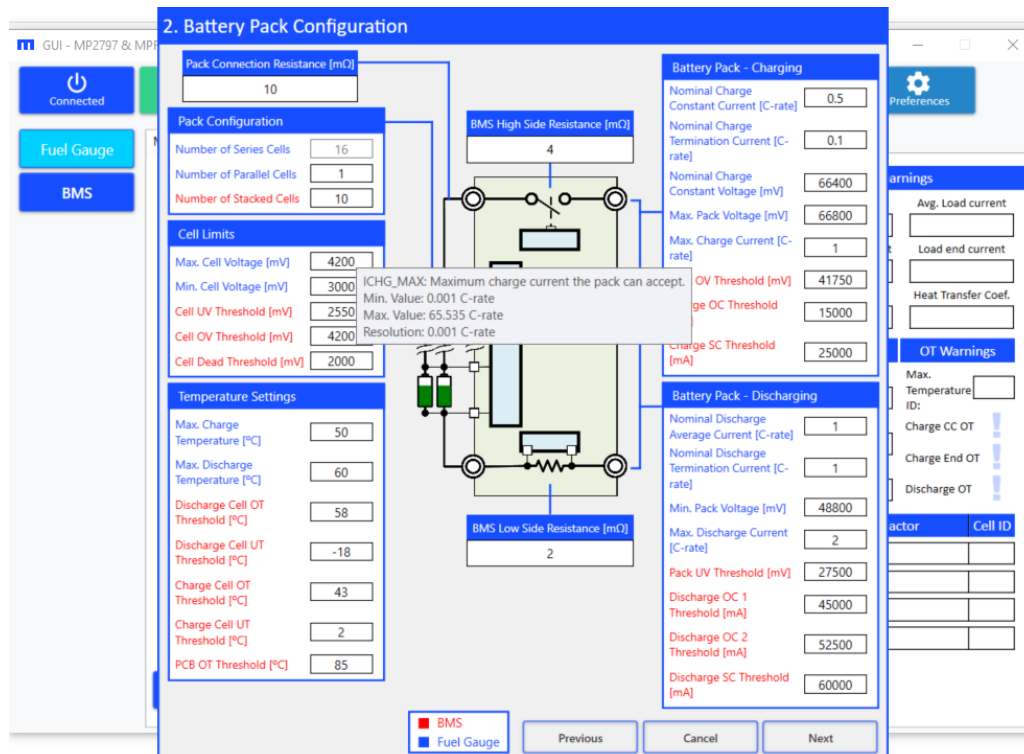
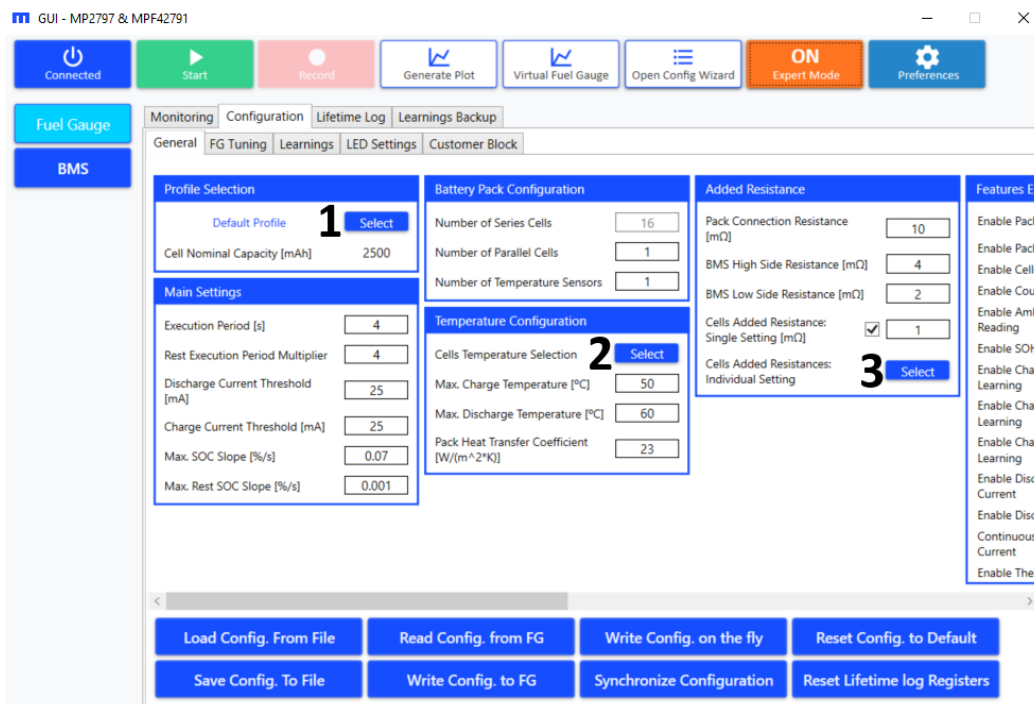

Figure 38: Configuration Wizard 3 – Battery Pack Configuration (Register Details)
Figure 41: Fuel Gauge Configuration – Expert Mode
- Place the cursor on top of a register name to display the register's information (see Figure 38). For more detailed information on the fuel gauge registers, refer to the MPF4279x datasheet.
3. To see the full set of registers to fine-tune the fuel gauge, select “Expert Mode” (denoted as “7” in Figure 31 on page 26). The full set of configuration registers should be displayed, as well as two extra sub-tabs: Learnings and Customer Block (see Figure 41). Figure 38 shows three “Select” buttons, discussed in greater detail below.
- c. The third “Select” button opens the wizard to introduce the added resistance from each cell’s connections (see Figure 41 on page 32). Alternatively, the “Cells Added Resistance: Single
Setting can set a single value for all cells. A checkbox in the window allows users to enable or disable this option (see Figure 41 on page 32).